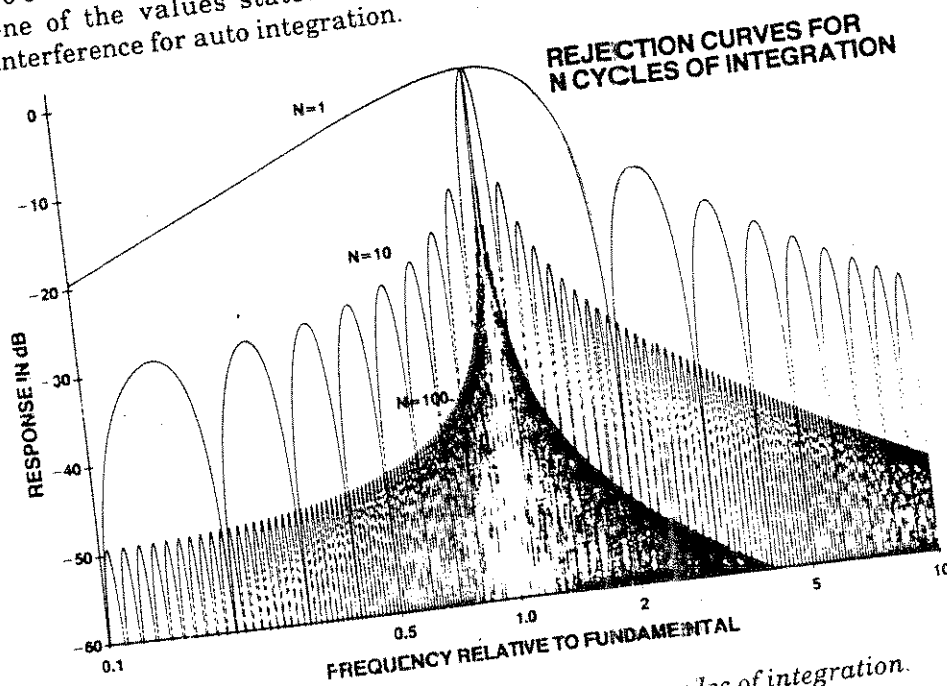

Fig 5.4 Noise and harmonic rejection v. cycles of integration.
- 2.1.1  **$f$  TIME** Integration time. The period over which the analyzer measures the input signals. The duration of this period determines the harmonic and noise rejection ability of the analyzer. Defined in seconds, the time is rounded up or down to cover a whole number of cycles. Fig 5.4 shows how rejection increases with time.